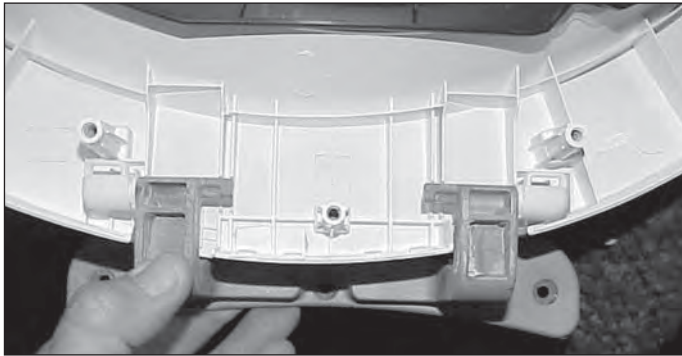

Figure 4-5.
3. With inner liner removed, the door hinge lifts out. (See Figure 4-5)